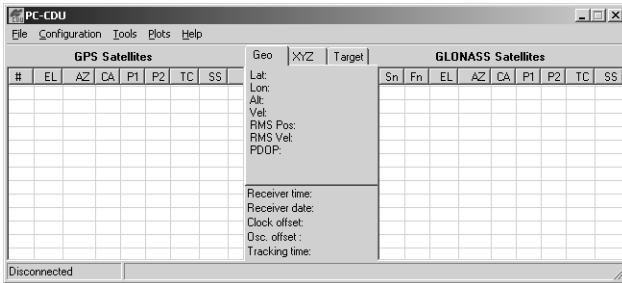

Figure 3-3. PC-CDU Main Screen
- Once the receiver and a computer are connected, start PC-CDU on the computer. The PC-CDU main screen displays (Figure 3-3).